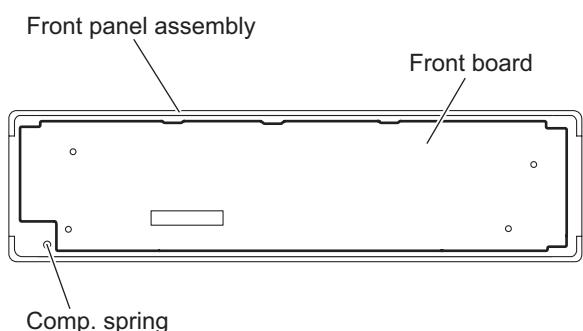

Fig.16
- Take out the front board from the front panel assembly. (See Fig.16.)
When removing the rear cover assembly and front board, be careful not to lose the comp. spring. (See Fig.16.)